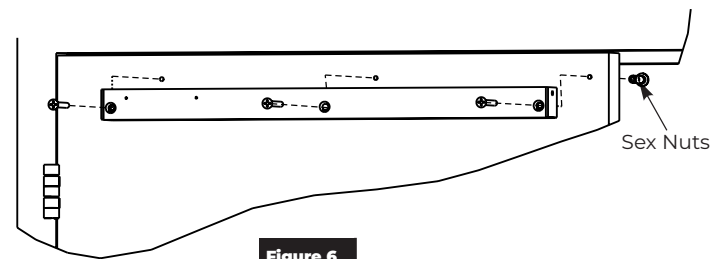

Figure 6
1. Using previously prepared holes in door, install three (3) 1/4-20 x 1-5/8" screws through track and into sex bolts. (Figure 6)